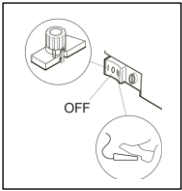

Figure 1
- A. **MAIN POWER SWITCH:** Located on the right side of the machine, the switch applies power to the Punch. Two 'ON' positions are indicated by the 'I' symbol for table top trigger operation and the 'II' symbol for use with the foot pedal. The 'OFF' position is marked with the 'O' symbol (figure 1).